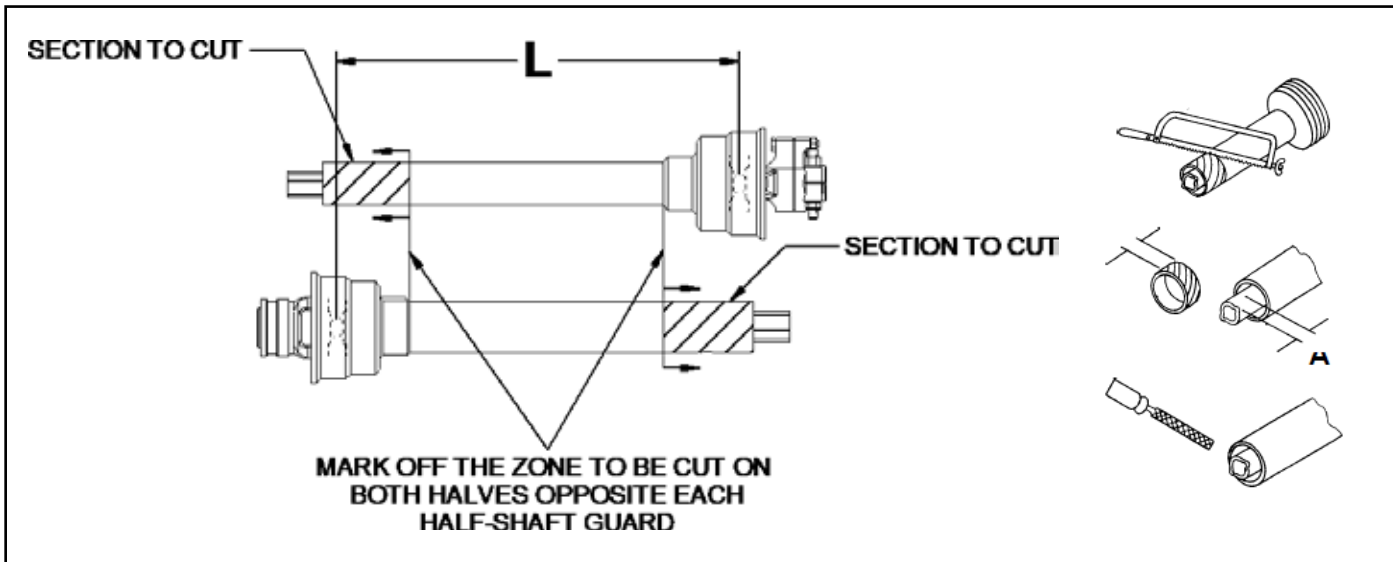

Figure 6. Determining Driveline Length
3. Hold the two half-shafts side by side and locate the “L” length between the two center-to-center half-shaft universal joints. Mark off the zone to be cut on both halves opposite each half-shaft guard as shown in Figure 6.